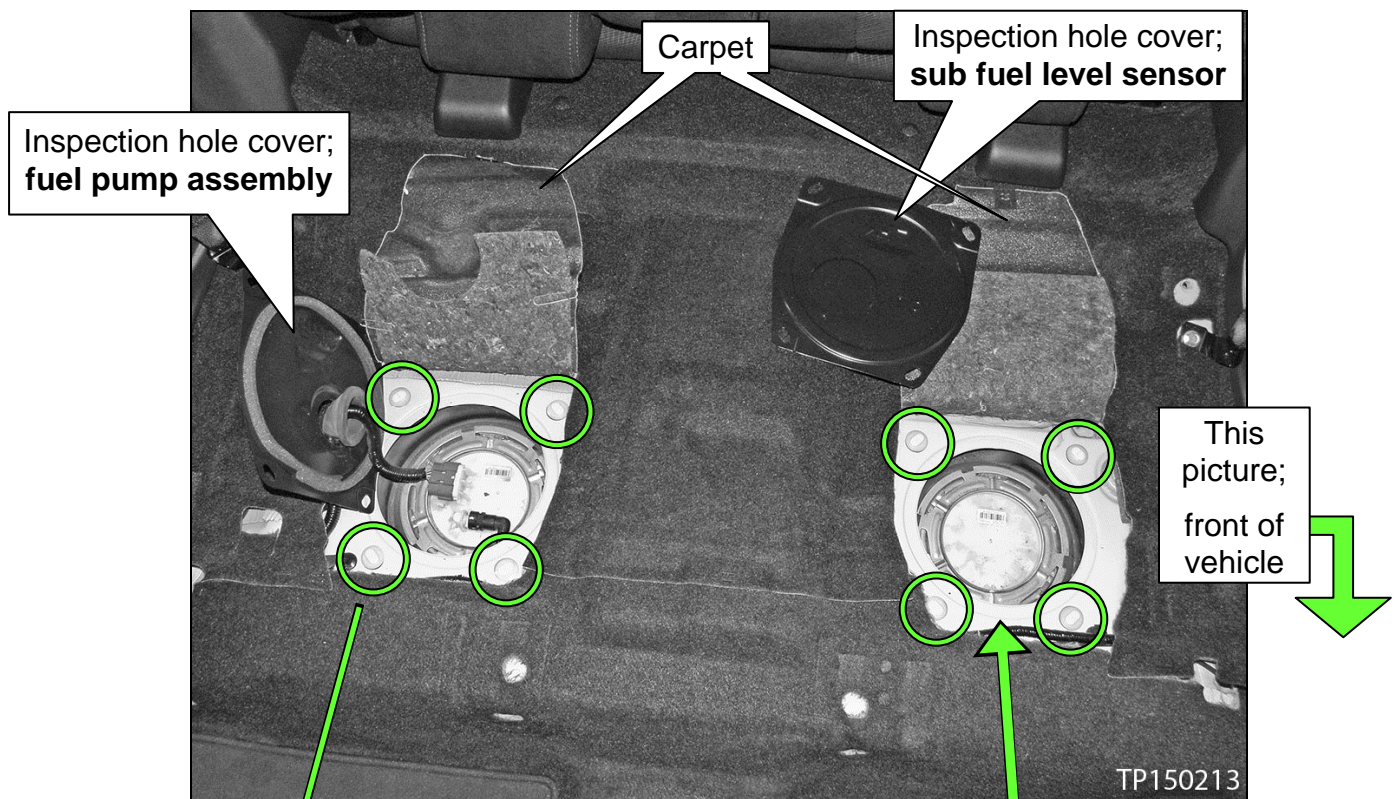

Figure 1
6. Fold the carpet out of the way, and then remove both inspection hole covers (see Figure 1 and 1a).
- Figure 1 shown with second row seating removed.